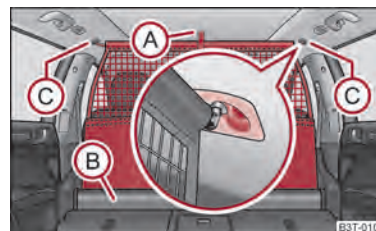

Fig. 83 Pull out the luggage net partition
- Pull the net partition at the bracket **A** ⇒ fig. 83 out of the housing **B**